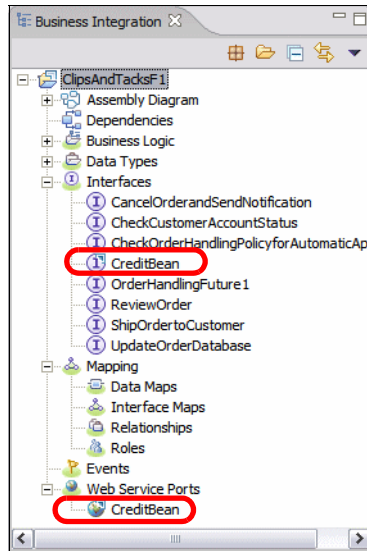

Figure 10-60 Business Integration view with Web service
- ▶ The Web service shows up in the Business Integration view under Web Service Ports. The CreditBean interface is also displayed (Figure 10-60).